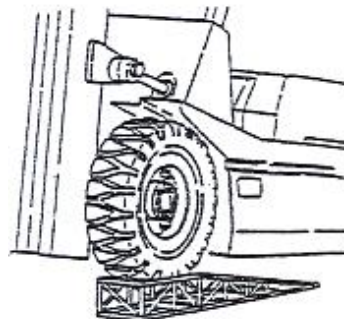

Figure2-59
7. 5. 4 Replace the roller of main frame as shown in Figure 2-59